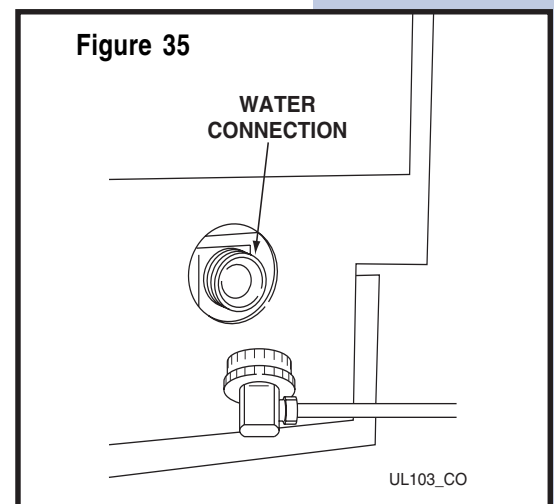

**Figure 34**
- 4 Remove the overflow tube by lifting it up while using a slight back and forth motion to loosen it from the drain hole (see **Figure 34**). The water in the reservoir will flow down the drain.
- 7 Drain water from the water trough and drain line by removing the overflow tube (see **Figure 34**).